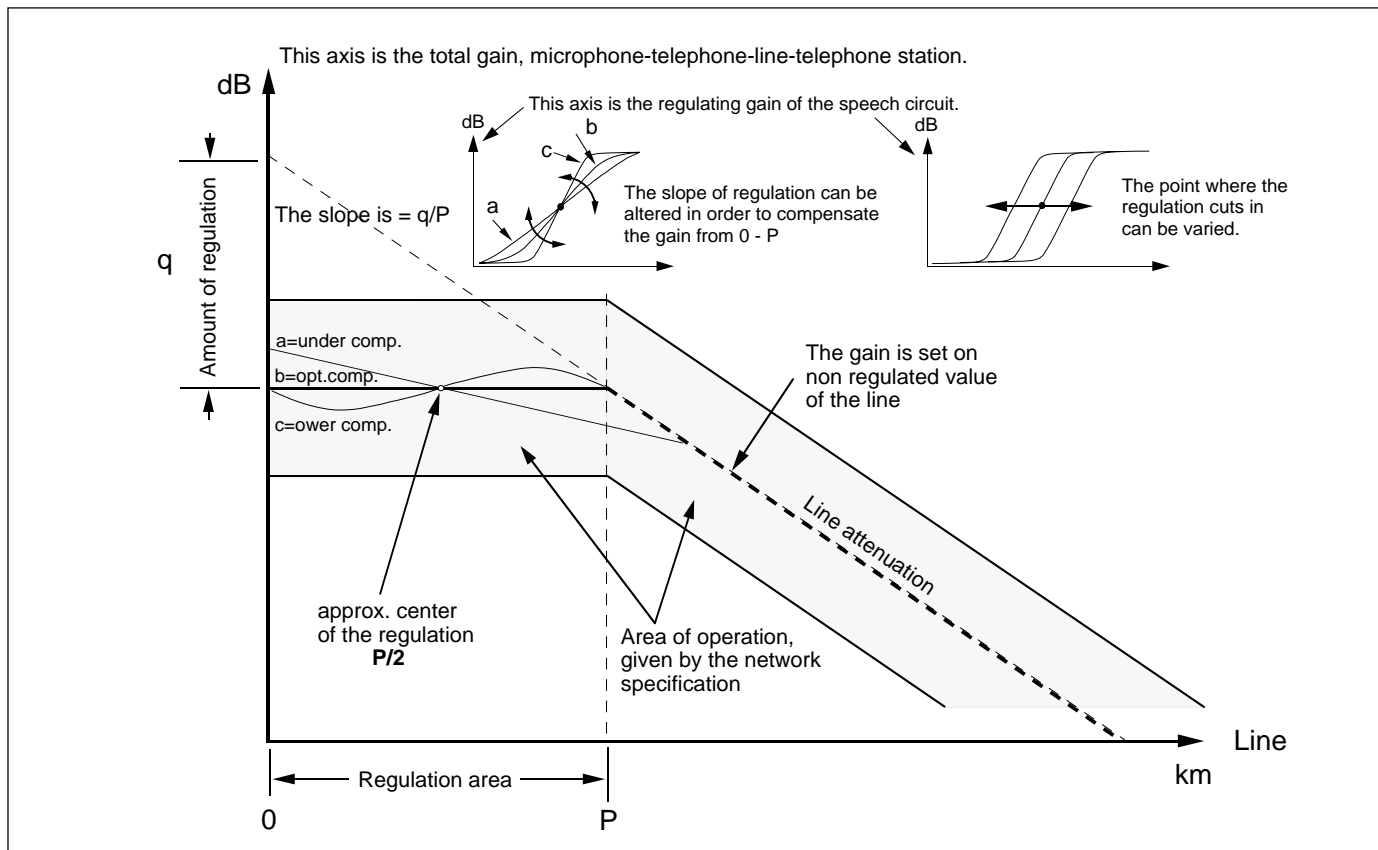

Figure 13. Line length regulation.
**Setting the parameters for line length regulation (See fig.13)**